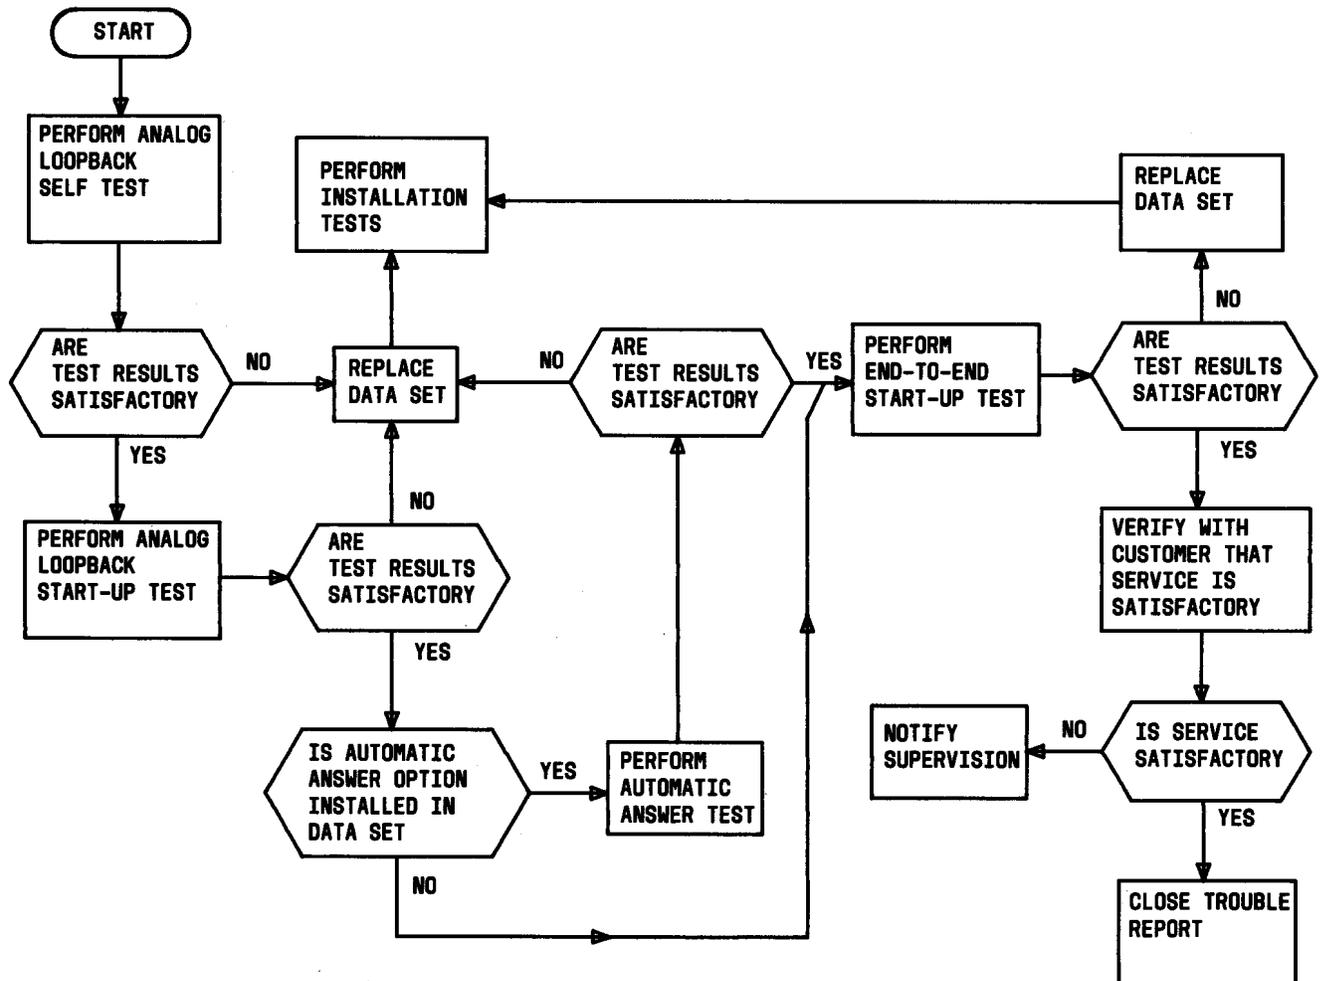
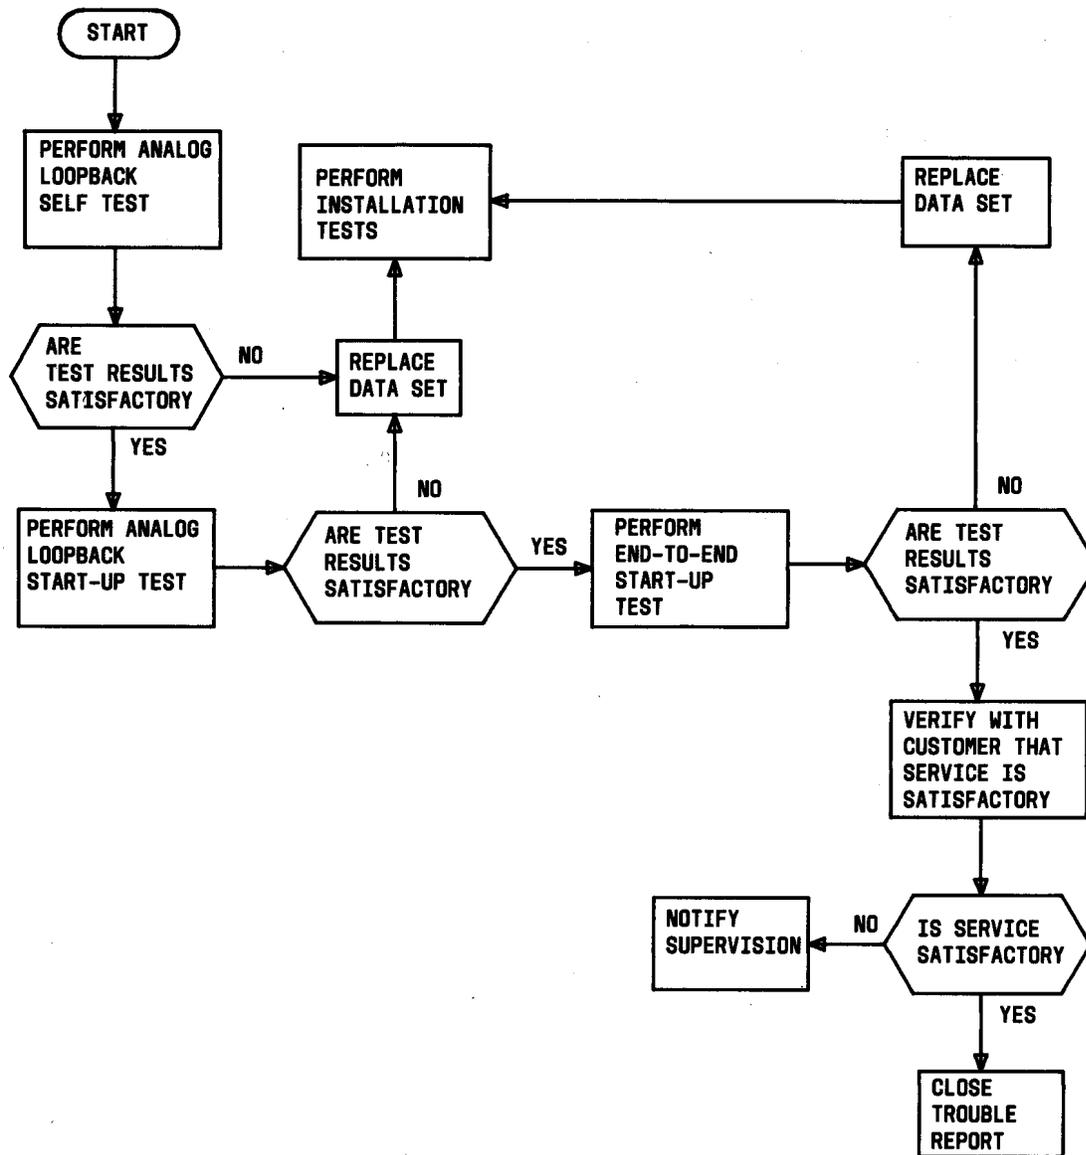

Fig. 8—Maintenance Test Sequence (2-Wire Switched Network)
Fig. 9—Maintenance Test Sequence (2-Wire Private Line)
3.04 Refer to Fig. 8 (2-wire switched network), Fig. 9 (2-wire private line), and Fig. 10 (4-wire private line) for the sequence in which tests are to be performed by the telco employee at the data station. If the data set is replaced, the defective data set should be tagged with a description of the trouble, carefully packed, and returned to